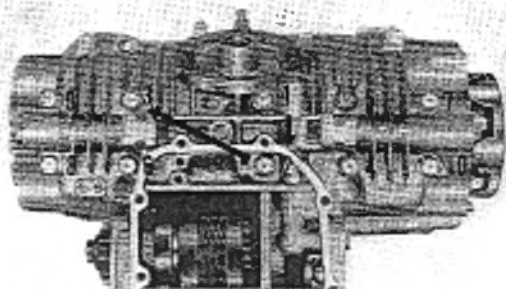

Fig. 3-76 Tightening sequence
4. Tighten the ten UBS bolts on the crankcase in the sequence as shown in Fig. 3-76.